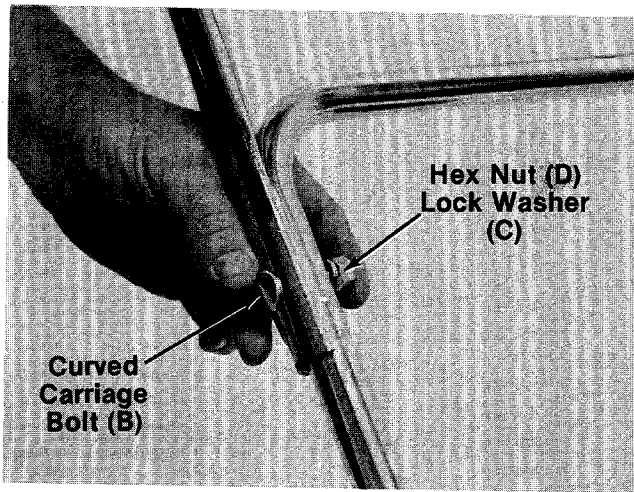

FIGURE 3.
- Place upper handle in position over lower handle. Control housing should be on the **left** side of the handle. Secure with two carriage bolts (B), lock washers (C) and hex nuts (D) as shown in figure 3.